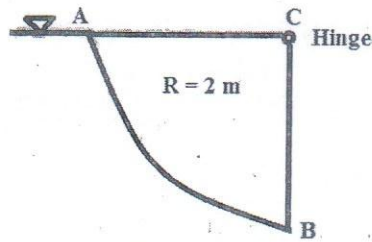

Figure 2
- (d) A capillary tube having an inside diameter of 6 mm is dipped into water at 20o C. Determine the height of capillary rise. Assume that the contact angle is 30o and the surface tension force is 0.073 N/m. (03)
- 2(a) Show that pressure at a point in a static fluid is independent of orientation, and has the same value in all directions. (07)
- (b) A block of wood 5 m long, 3 m wide and 1 m deep is floating horizontally in water. If the density of wood is 700  $\text{kg/m}^3$ , find the volume of water displaced and the position of the center of buoyancy. (06)
- (c) Figure 2 shows a gate which is a quadrant of a circular cylinder of radius 2 m. Determine the following: (12)